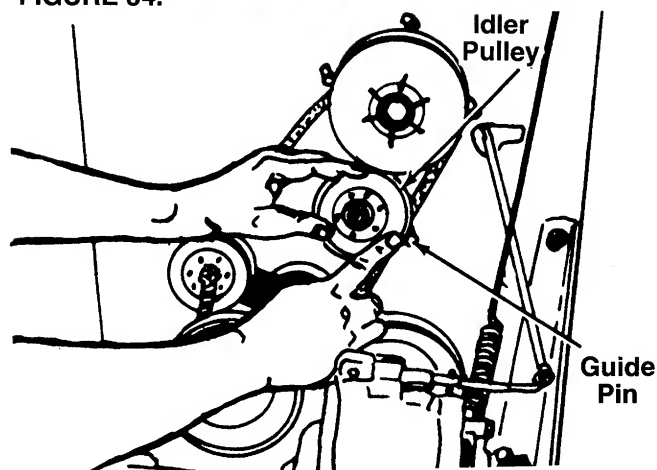

**FIGURE 33.**
9. Remove and replace the "V"-belt. See figure 33.